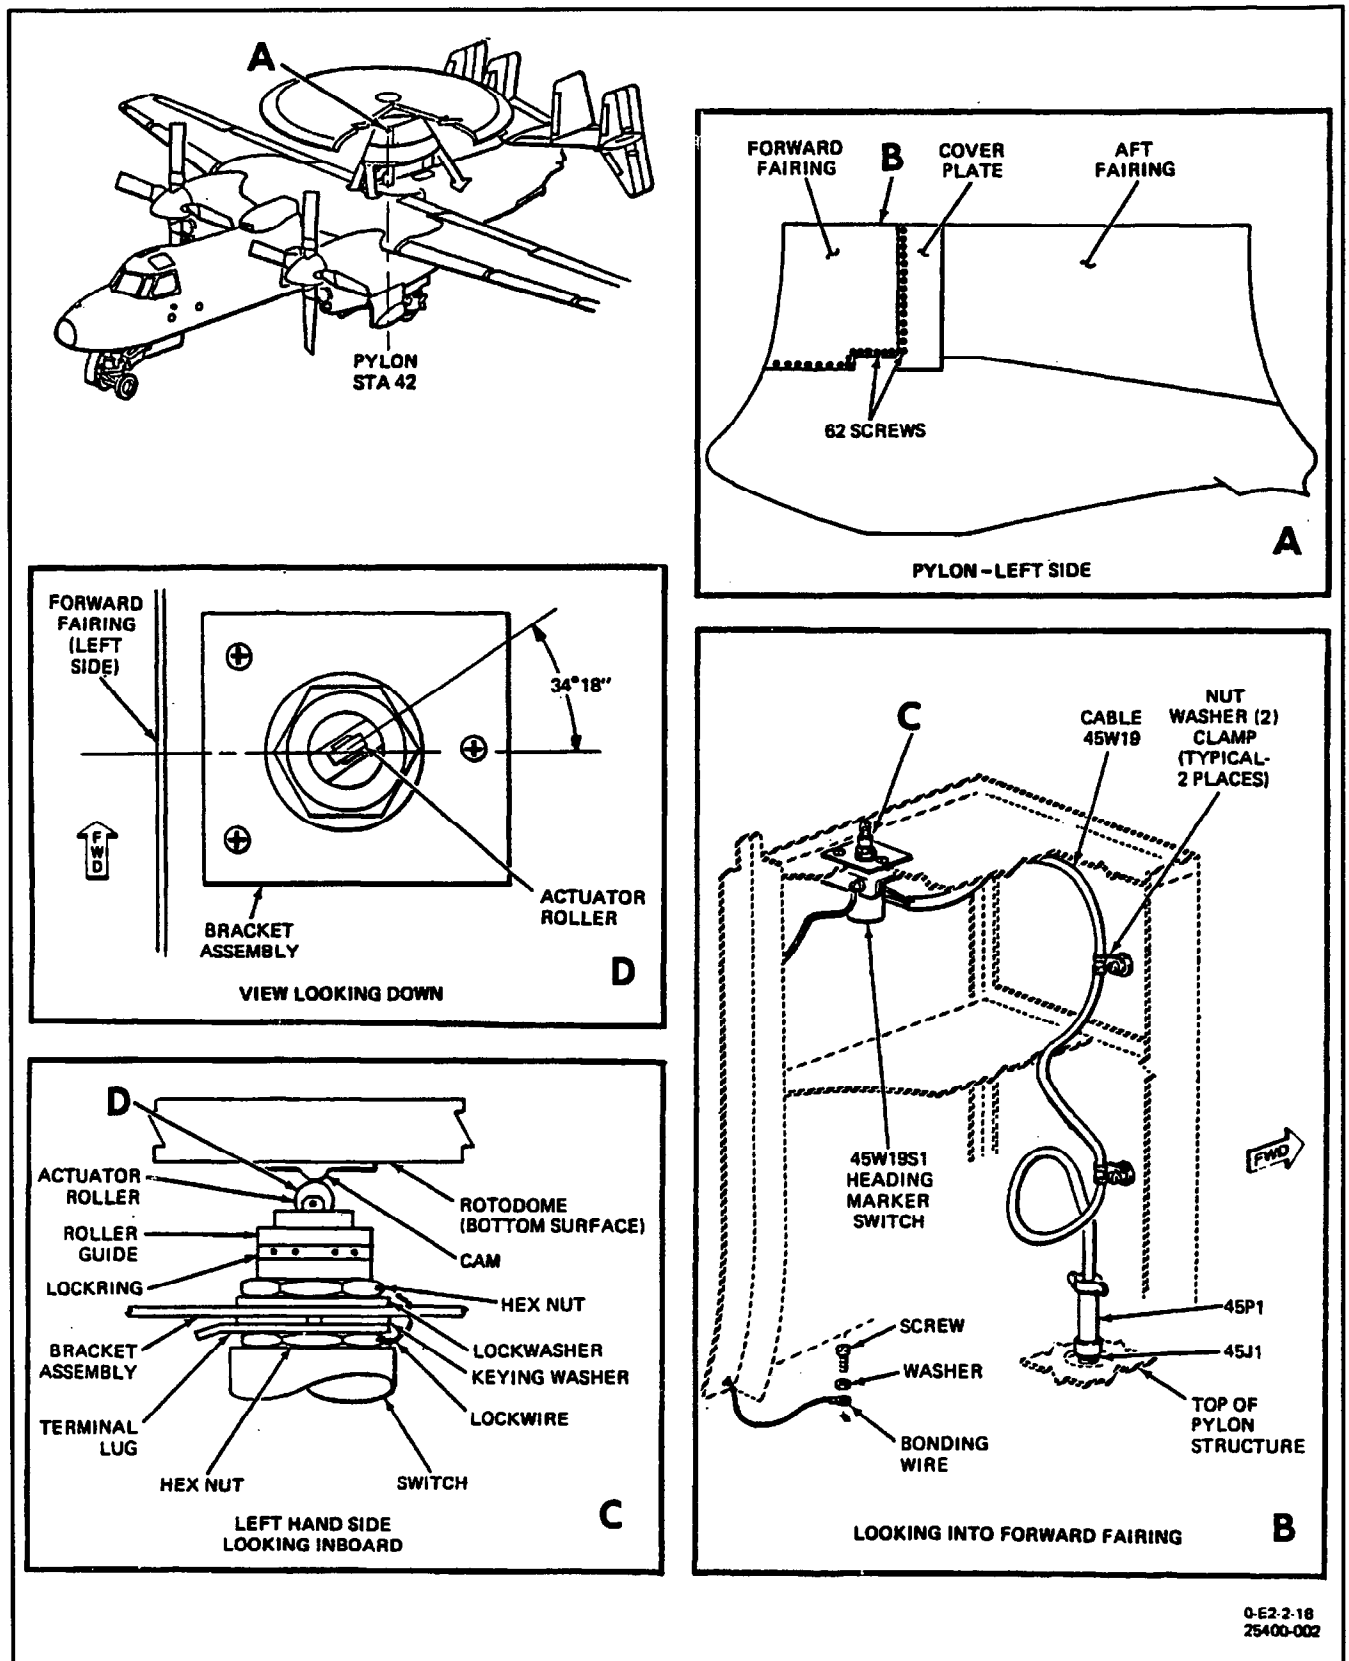

Figure 2. Removal and Installation of Ownship Heading Marker Switch on Fixed Fairing Door
**8. REMOVAL. (See figure 2.)**
9. INSTALLATION. (See figure 2.)